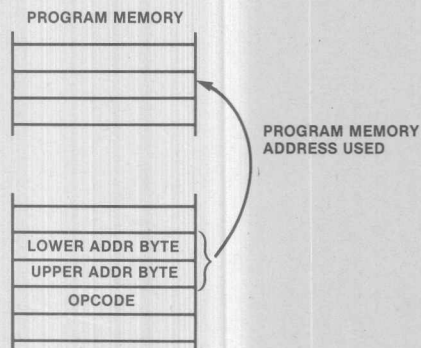

Figure 4-6. Direct Addressing
4.5 DIRECT ADDRESSING (DA)
The Direct addressing mode, as shown in Figure 4-6, specifies the address of the next instruction to be executed. Only the Conditional Jump (JP) and Call (CALL) instructions use this addressing mode.
4.6 RELATIVE ADDRESSING (RA)